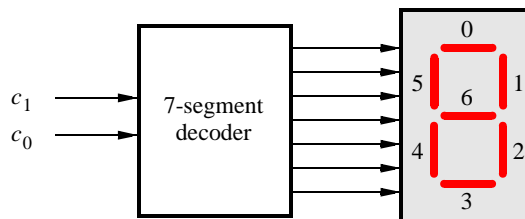

Figure 6. A 7-segment decoder.
Figure 6 shows a 7-segment decoder module that has the two-bit input c_1c_0 . This decoder produces seven outputs that are used to display a character on a 7-segment display. Table 1 lists the characters that should be displayed for each valuation of c_1c_0 . To keep the design simple, only three characters are included in the table (plus the 'blank' character, which is selected for codes 11).
2. Create a VHDL entity for the 7-segment decoder. Connect the c_1c_0 inputs to switches SW_{1-0} , and connect the outputs of the decoder to the $HEX0$ display on the DE1 board. The segments in this display are called $HEX0_0, HEX0_1, \dots, HEX0_6$, corresponding to Figure 6. You should declare the 7-bit port